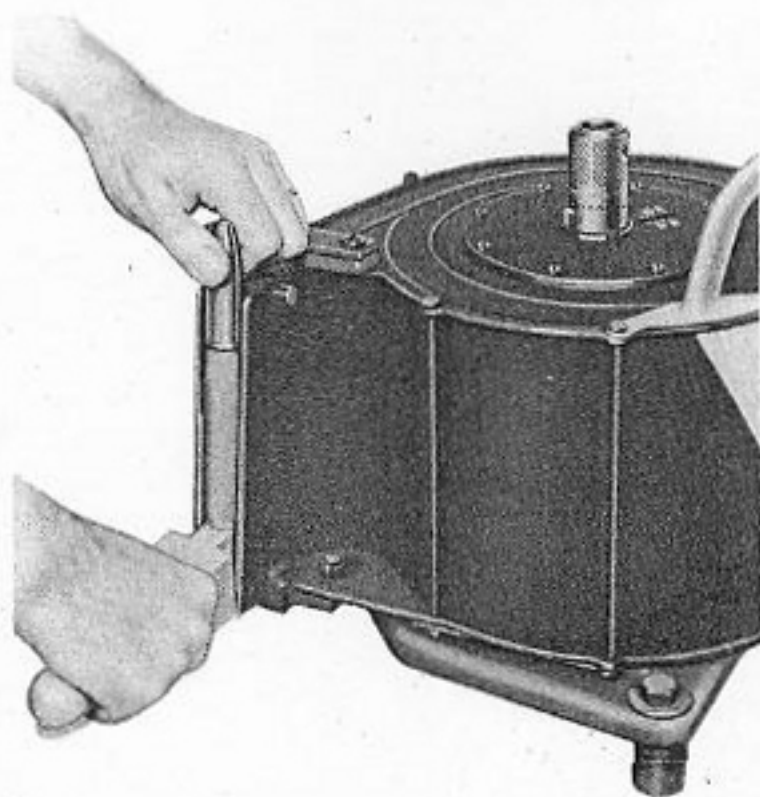

Figure 58. Unloading a Fully Tensioned Magazine. Magazine is Secured on Loading Frame with Wedge through Hand Grip.
1. **Full Magazine with Full Tension.** Push the rounds out of the magazine one at a time as shown in Fig. 58. This removes the cartridges and relieves the spring tension at the same time. It is not necessary to use the magazine lever or disconnect the coupling sleeve.